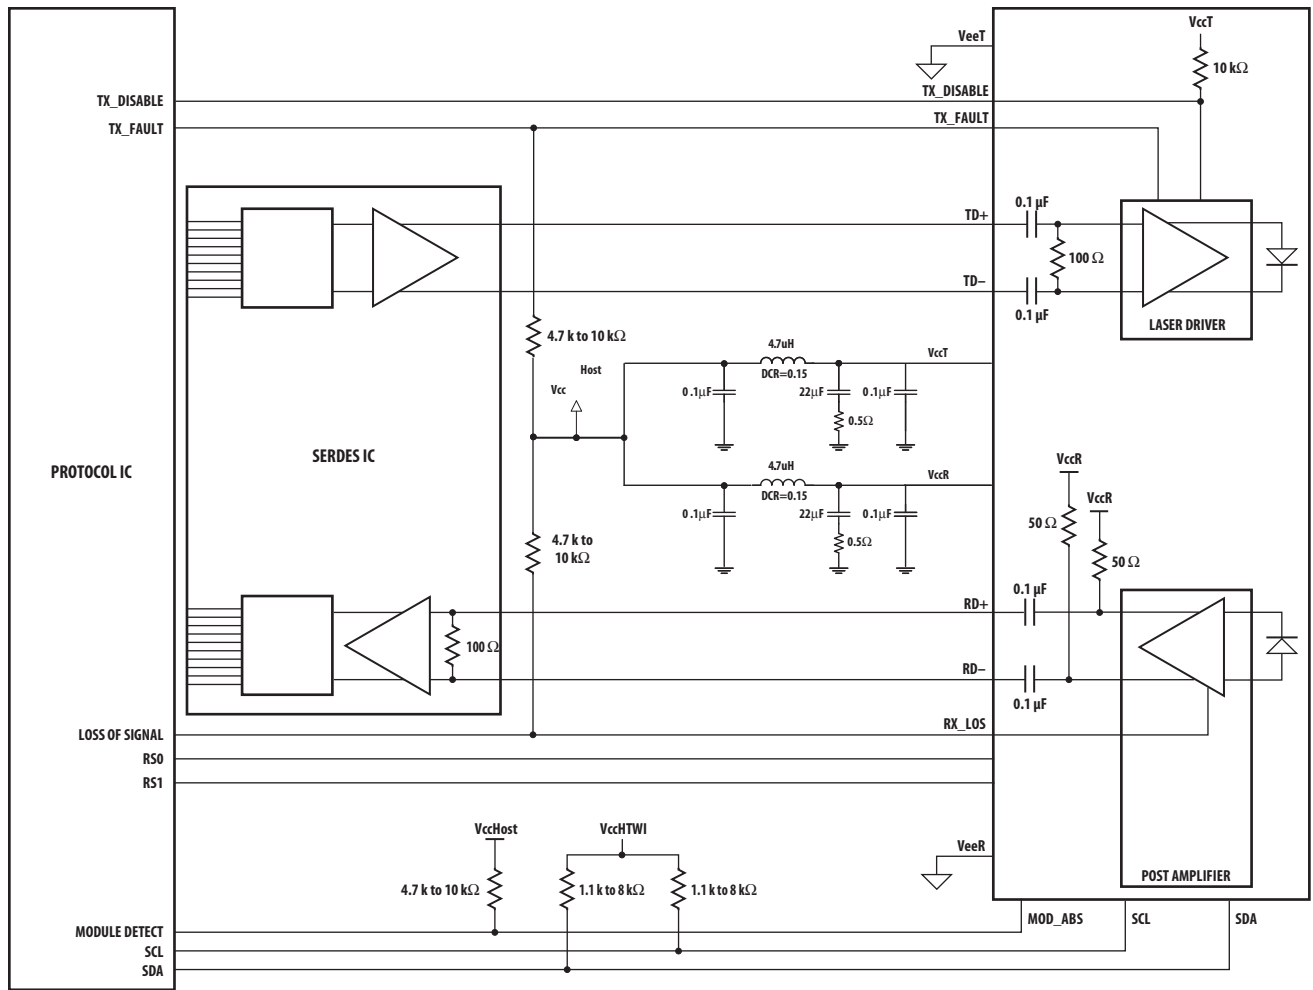

Figure 2. Typical application configuration
Figure 2 depicts the recommended interface circuit to link the AFCT-701SDDZ to supporting physical layer ICs. Timing for the dedicated SFP+ control signals implemented in the transceiver is shown in Figure 5.
2. This is an open collector/drain output that on the host board requires a 4.7 kΩ to 10 kΩ pullup resistor to VccHost. See Figure 2.